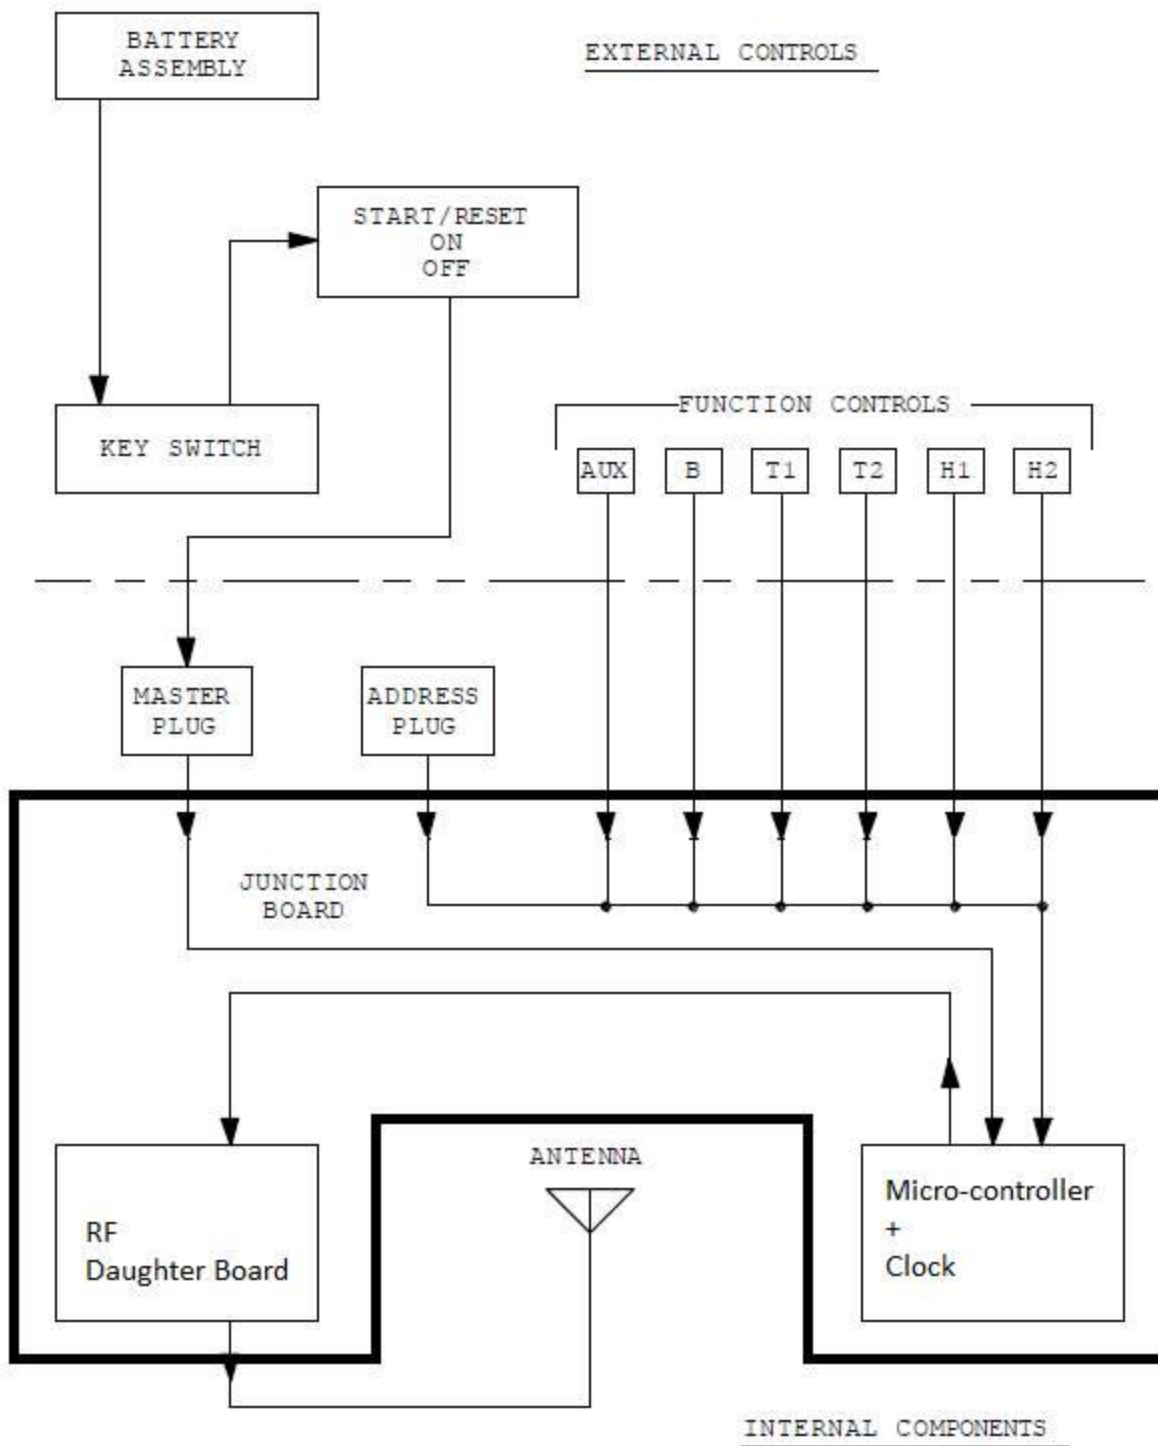

Figure 3-1: Block Diagram, Transmitter
The Transmitter is a battery operated frequency modulation radio transmitter. Incorporated with the transmitter is an antenna and rechargeable battery pack. Transmitter carrier frequency is crystal controlled. When the various switches are actuated, coded control signals are sent to the receiving equipment via the antenna. A block diagram of the transmitter is shown by Fig. 3-1.
5.2.2 Transmitter - (See Block Diagram, Transmitter, Fig. 3-1, and Transmitter Components, Fig.5-1).